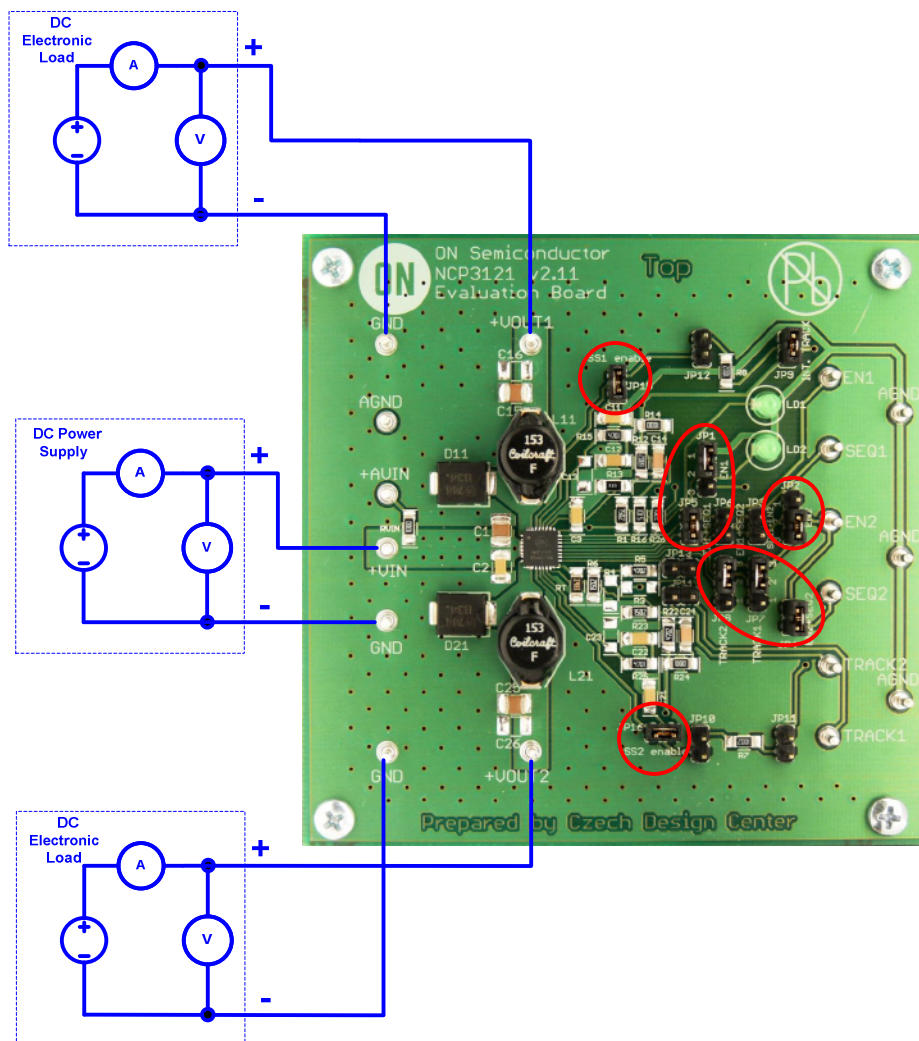

Figure 1. Test Setup
1. Make sure, if the red ringed jumpers - Figure 1 - are placed.
2. Connect the test setup as shown in Figure 1.